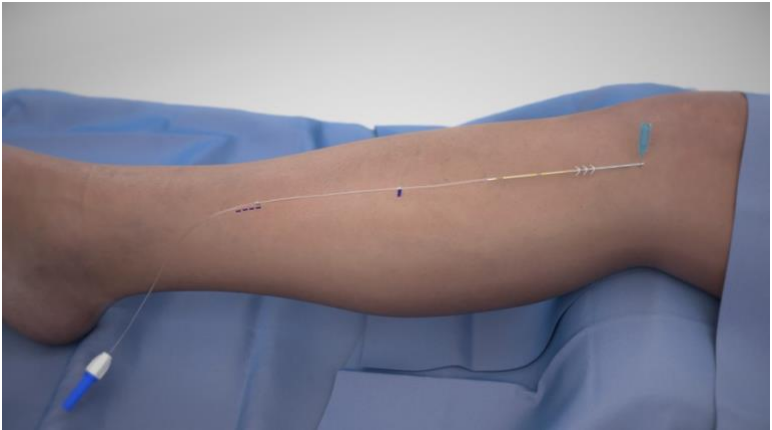

Figure 1
1. To identify the location of the second incision for the pocket creation, utilize a sterile marker to re-mark the skin after the second marker band or approximately 10 cm from the first incision. The remarking is an assurance that the pocket will be within close proximity to the original measure during the first step of the surgical process. (Figure 1)